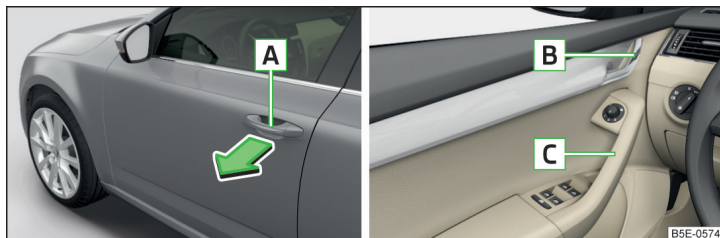

Fig. 56 Door handle/door opening lever
- To **open from outside**, unlock the vehicle and pull the door handle **A** in the direction of arrow » Fig. 56.